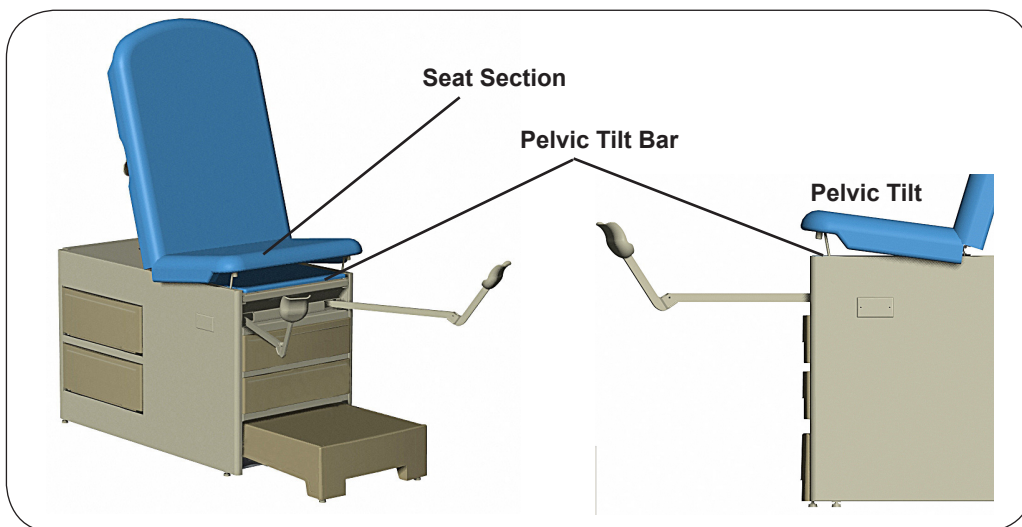

Figure 14. Pelvic Tilt Support Bar
1. Raise the front edge of the seat section (Figure 14). Rotate the pelvic tilt support bar upward to its full upright position.